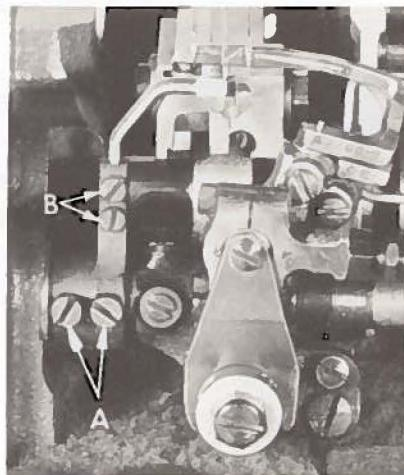

Fig. 9
Set the front needle guard so that it pushes the left 602 stitch needle back toward the path of the front looper as it moves behind the needle. The looper may brush but not pick at this needle. It should be set as low as possible, yet have its vertical face push the needle until the point of the looper is just past the left side of the needle. The front needle guard should not contact the rear needle guard or right needle at any time. To move needle guard forward or rearward, loosen screws (A, Fig. 9), rotate needle guard holder as required and retighten screws. To raise, lower or rotate needle guard, loosen screws (B), reposition as necessary and retighten screws after guard is properly set.